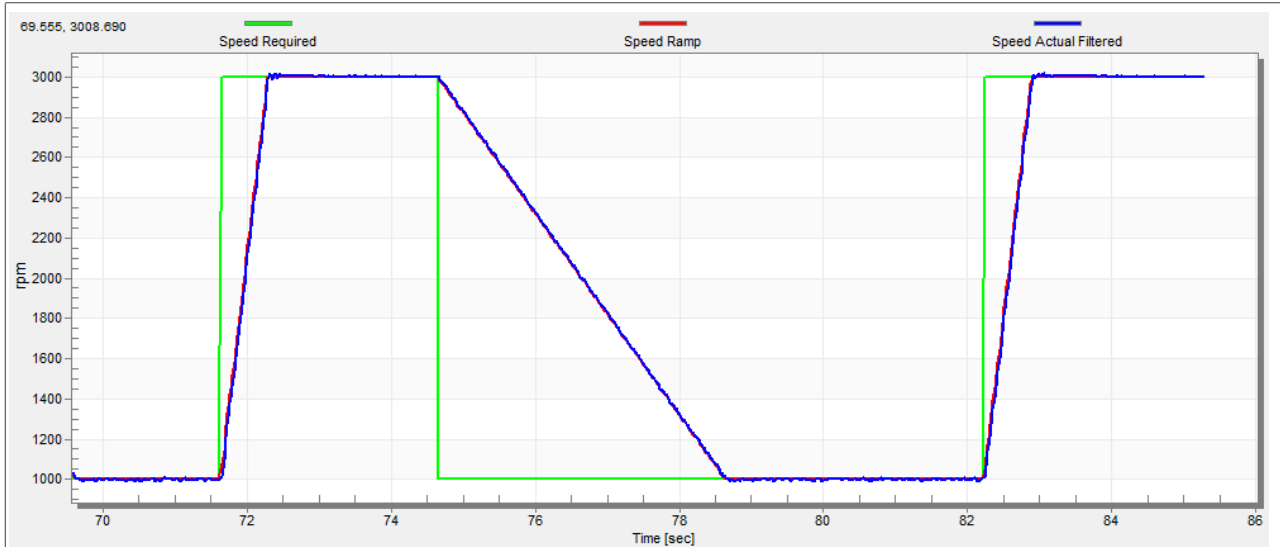

Figure 30. Speed profile
2. The increments are common for the scalar and speed control. The increment fields are in the “Speed loop” tab and accessible in both tuning modes. Clicking the “Update target” button applies the changes to the MCU. An example speed profile is shown in Figure 30. The ramp increment down is set to 500 rpm/sec and the increment up is set to 3000 rpm/sec.